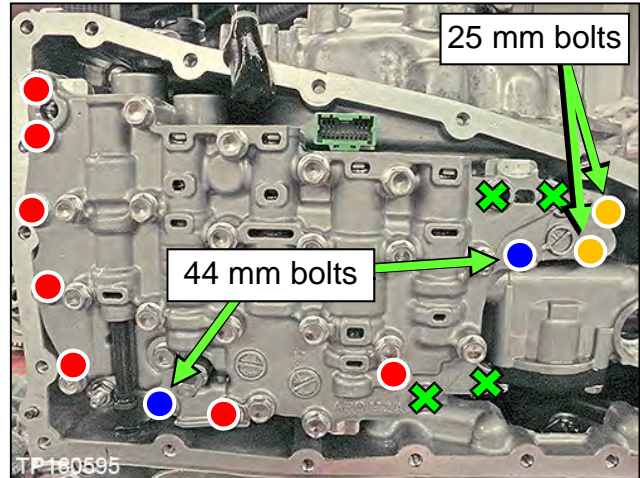

Figure 177
144. Install the Control Valve with eleven (11) mounting bolts (Figure 177).